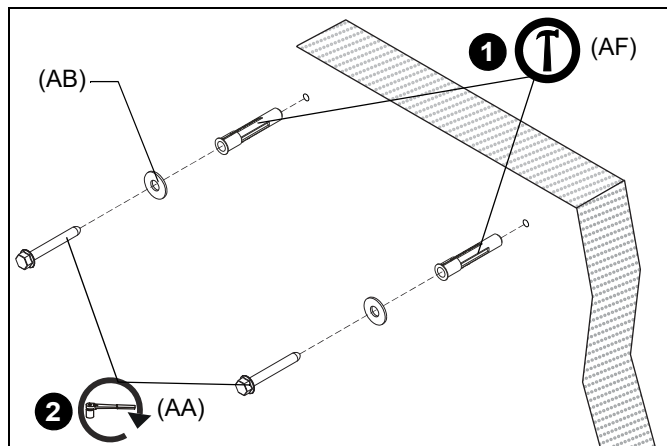

Figure 19
1. Install one UX10x60R anchor (AF) into each pilot hole using a hammer, making sure that the anchor is flush with the wall. (See Figure 19)
2. Use one 5/16" x 2-1/2" hex flange head lag bolt (AA) and one 5/16" washer (AB) through product into each anchor in wall. (See Figure 19)